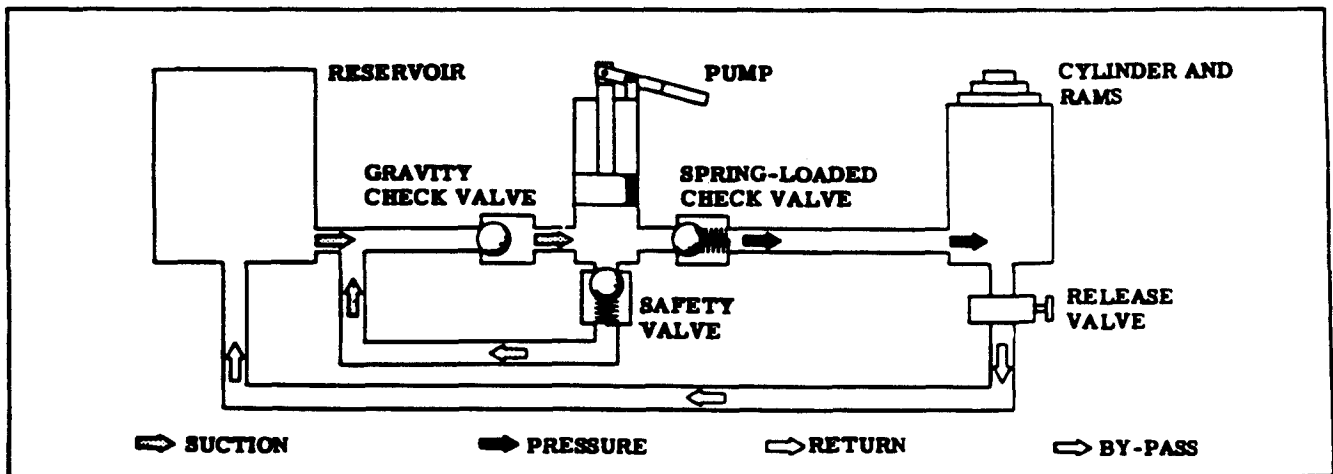
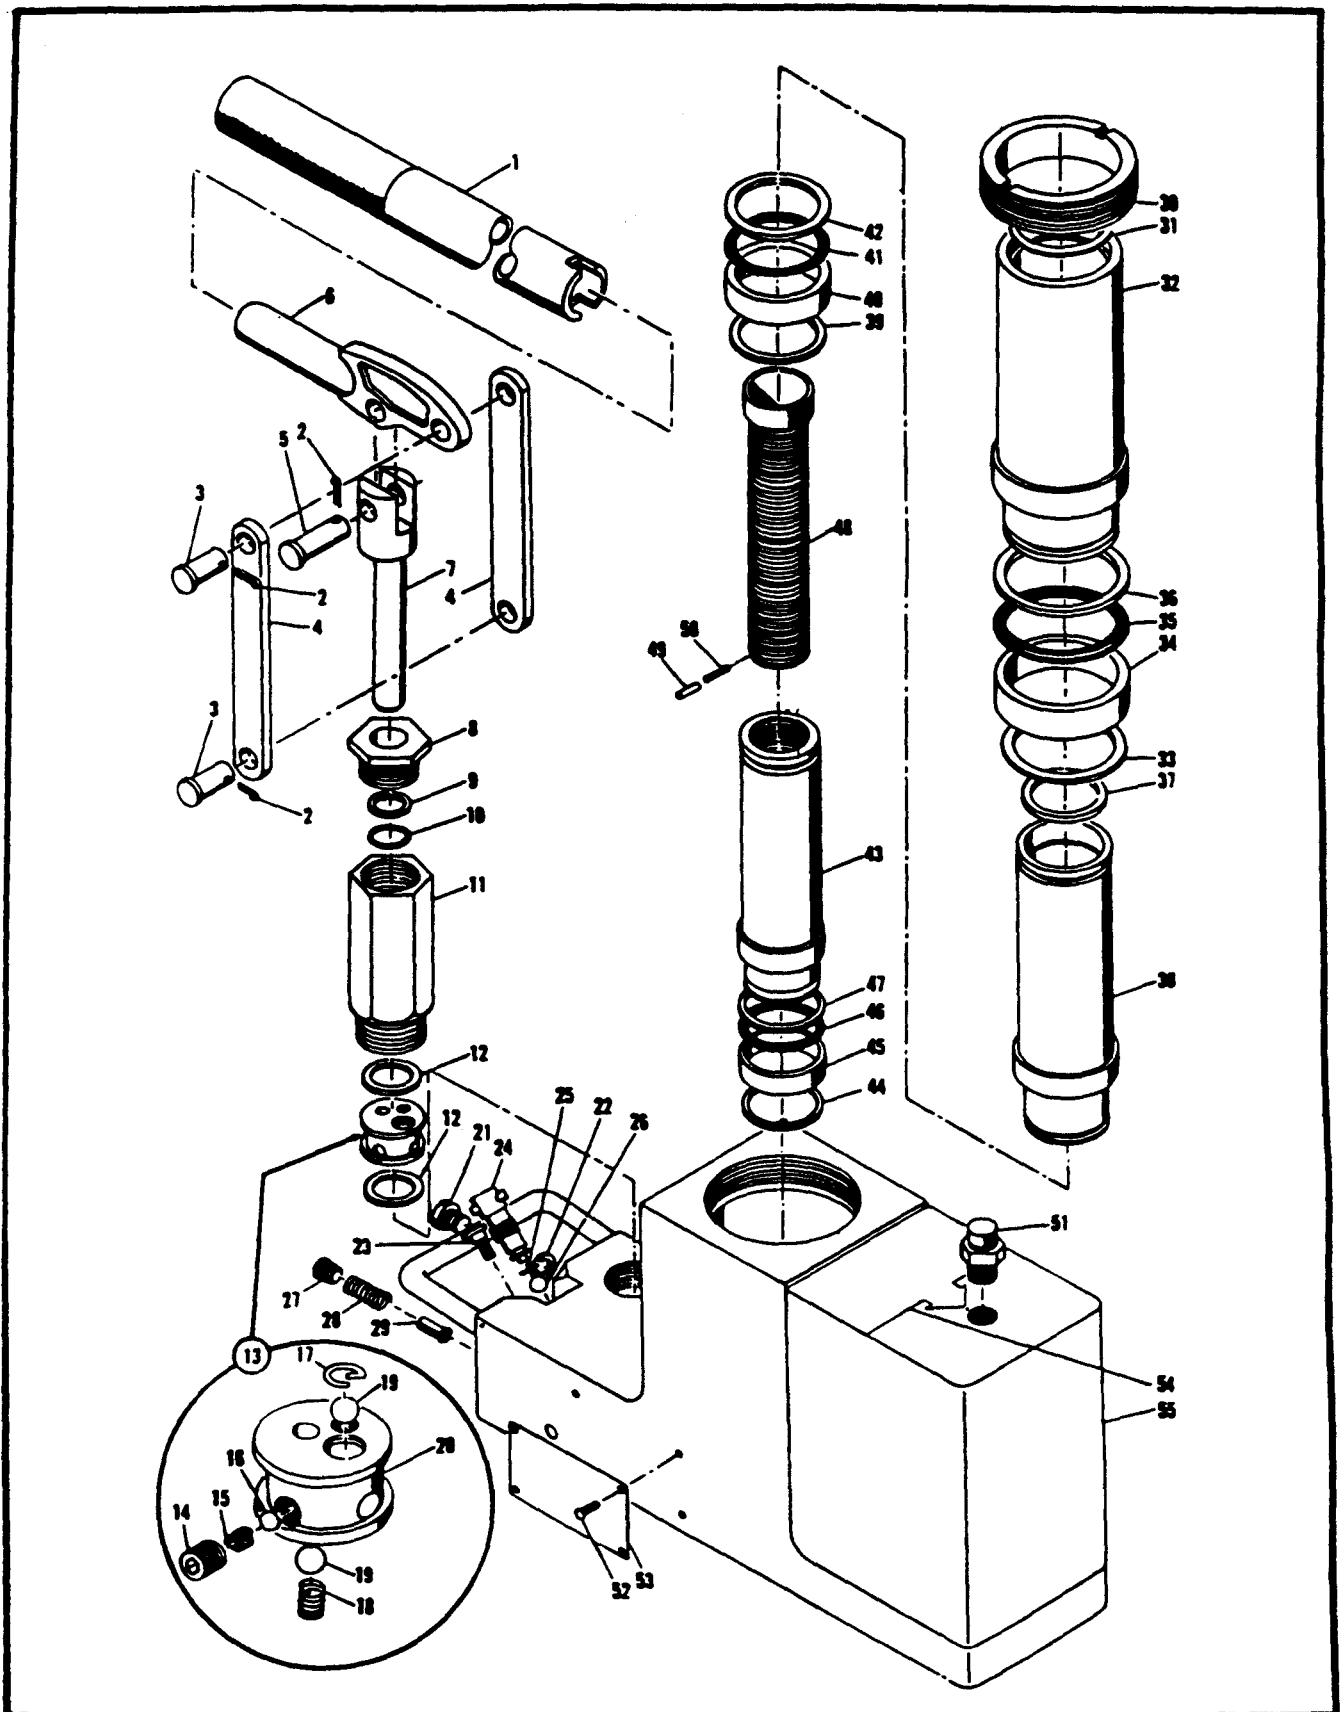

Figure 2-1. Operational Schematic Diagram
Figure 3-1. 5-Ton Hydraulic Aircraft Hand Jack Assembly, Type A-5, Part No. 53D22020
2-1. PRINCIPLE OF OPERATION. (See figure 2-1. The valve assembly (13, figure 3-1) is located beneath pump body (11 figure 3-1). The valve assembly contains a gravity check valve, a spring-loaded check valve and safety by-pass valve. On the "up" stroke the pump piston (7, figure 3-1) draws hydraulic fluid from the reservoir, and on the "down" stroke force fluid under pressure through the spring-loaded check valve and into the base assembly (55, figure 3-1) cylinder and rams (32, 38, 43, figure 3-1). This fluid pressure is retained by the spring-loaded check valve. Pressure may be released and fluid returned to the reservoir by opening the release valve (24, figure 3-1). The safety by-pass valve is operative when load to the uack rams exceeds the maximum allowable load of 5-1/2 tons (10% grater than 5 ton rated load).
TABLE I. TROUBLE SHOOTING (See figure 3-1.)
3-2. DISASSEMBLY. (See figure 3-1.) Disassemble the jack as outlined in paragraphs 3-3 and 3-4.
KEY TO FIGURE 3-1 →
TABLE II. INSPECTION (See figure 3-1.)
3-7. REPAIR. (See figure 3-1.) Repair defective parts as follows:
3-8. REPLACEMENT. (See figure 3-1.) Damaged or defective parts other than repairable valve (20) seats and base assembly (55) shall be replaced (refer to paragraphs 3-7a, 3-7b and to "REMEDY", Table I).
3-9. LUBRICATION PRIOR TO REASSEMBLY. (See figure 3-1.) Prior to reassembly, dip all parts except handle (1), pins (2, 3, 5), links (4), arm (6), head of piston (7), and external surfaces Of base assembly (55) in hydraulic oil, Specification MIL-O-5606. Lightly coat pins (3, 5) with oil, Specification MIL-L-7870. Protect oil-wet surfaces from dust accumulation pending reassembly.
3-10. REASSEMBLY. (See figure 3-1.) Reassemble in reverse order of disassembly, noting the following:
a. Install ring (47) and packing (46) onto third stage ram (43). Ring shall bear against shoulder of third stage ram. Work ring and packing into place between rams by manually pressing against packing at several points.
b. After ring (47) and packing (46) have been properly seated, install bearing (45), rapping lightly at lower edge of bearing with a soft-head mallet until seated, and install ring (44) on lower end of third stage ram (43). Insert third stage ram into second stage ram until ring (37) groove is accessible. Install ring.
c. Repeat procedure outlined in paragraphs 3-10a and 3-10b for second stage ram (38) and first stage ram (32) and associated parts.
d. Install valve assembly (13) with gaskets (12) in base assembly (55) so that screw (14) hole is aligned with screw (21) hole in base assembly. Maintain hole alignment with a wood dowel, and screw body (11) into base assembly snugly, securing valve assembly.
3-11. BY-PASS VALVE ADJUSTMENT. (See figure 3-1.) Using test stand described in paragraph 3-14, adjust by-pass valve in valve assembly (13) as follows:
b. Using the test stand, apply a 5-1/2 ton load to the jack. Operate handle (1) to lift load. Third stage ram (43) shall extend partially. If lift ceases, remove screw (21), rotate screw (14) slightly clockwise, replace screw (21) and attempt to lift load. If necessary, repeat clockwise adjustment of screw (14) until partial lift of third stage ram is permitted with the 5-1/2 ton load.
TABLE III. WEAR TOLERANCES (See figure 3-1.)
3-12. TESTING AFTER REASSEMBLY. (See figure 3-1.) After reassembly and by-pass valve adjustment, test the jack as outlined in paragraphs 3-13 through 3-17.